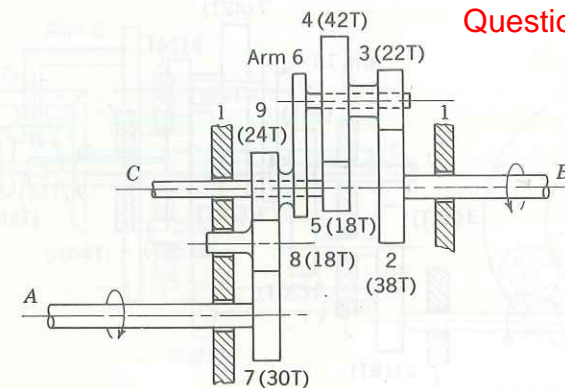

FIGURE 7.43
7.30. For the gear train of Fig. 7.43, shaft A rotates at 300 rpm and shaft B at 600 rpm in the directions shown. Determine the speed and direction of rotation of shaft C.